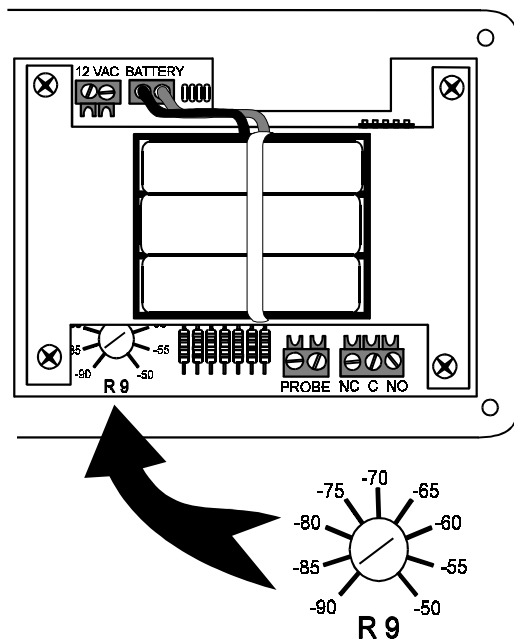

Figure 3-4
3. Pull the control panel out and locate Set Pot R 9 on the bottom left corner of the Performance Monitor/Alarm circuit board. (See Figure 3-4)